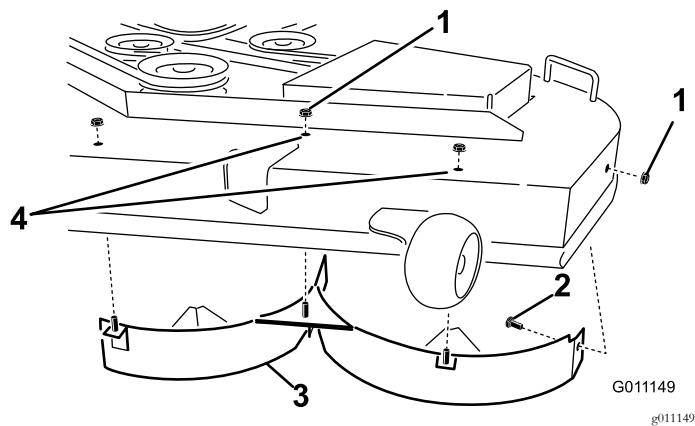

Figure 34
- Remove the 3 locknuts (5/16 inch) secured to the welded posts of the left baffle on the top of the mower deck at the center, left of center, and left positions (Figure 34).
- Remove the carriage bolt and locknut on the side wall of the mower deck securing the left baffle to the deck (Figure 34).
- Remove the left baffle from the mower deck (Figure 34).
- Locate the 2 bolts in loose parts and use the existing locknuts and install these fasteners into the holes shown in Figure 34 on the mower deck to prevent flying debris.